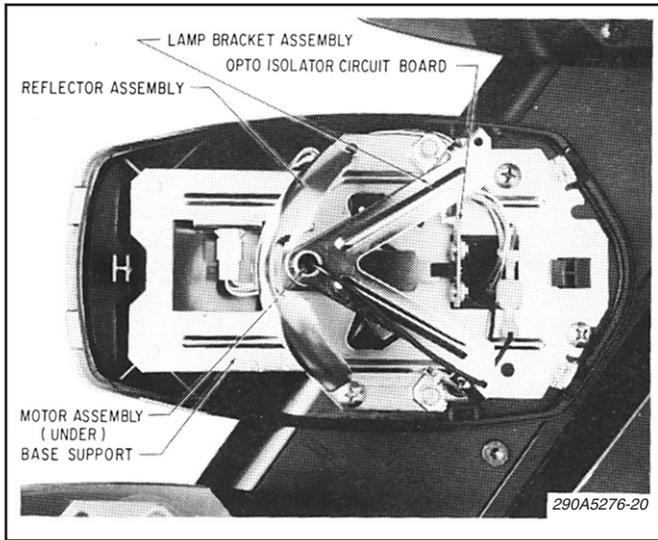

Figure 6-5.
D. Smart Pod Servicing. (See figure 6-5.)